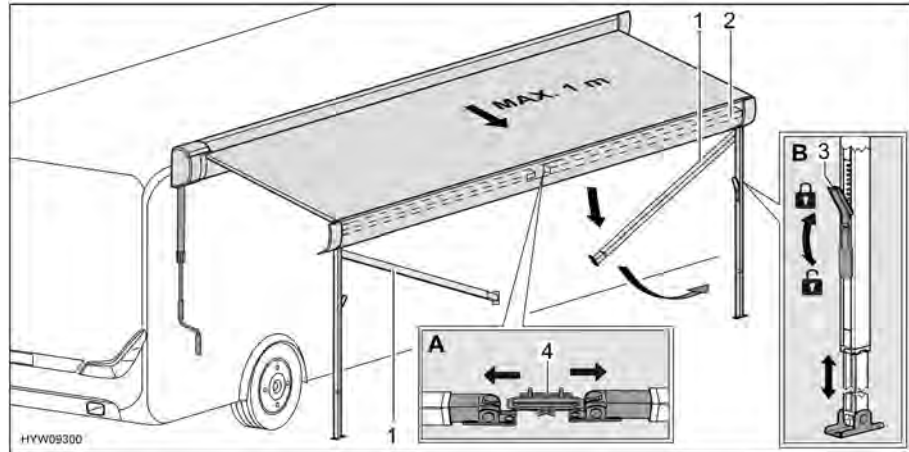

Fig. 12 Preparing support legs
- Release support legs (Fig. 12,1) from holder (Fig. 12,4) in the front bar (Fig. 12,2). In order to do this, apply slight outward pressure on the support legs (Fig. 12,A).
- Release the locks (Fig. 12,3) of the support legs. In order to do this, fold the catch lever downwards.
- Pull lower part of the support legs out to the desired length (Fig. 12,B).
- Close the locks (Fig. 12,3) of the support legs. In order to do this, fold the catch lever upwards.